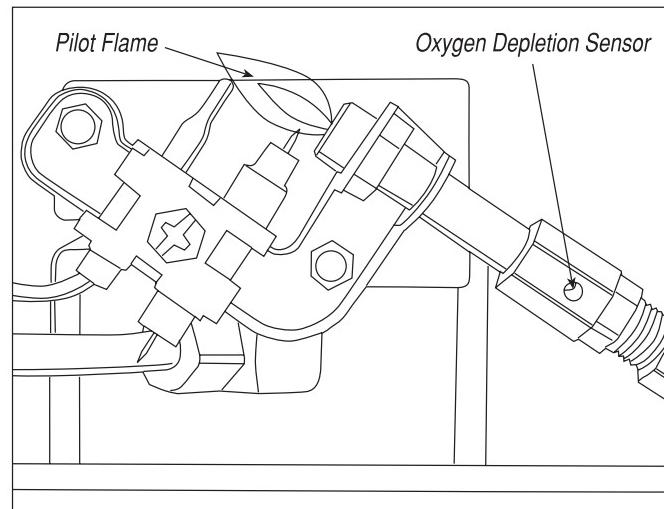

Figure 3
Visually inspect the pilot flame and burner periodically during use. The pilot flame should be blue in color (not yellow) and will extend beyond the thermocouple. The flame will surround the thermocouple just below the tip, see Figure 3. A slight yellow flame may occur where the pilot flame and main burner flame meet. The burner(s) should be bright orange (with a slight blue color around the border, a red-orange haze that is visible on the ceramic tile is acceptable) and without a noticeable flame.
- Remove (4) screws securing back cover to heater. Lift up slightly to release (2) plastic hooks on top of back cover.
- Remove (3) screws attaching lower baffle to expose burner air openings.
- 9 Inspect and clean pilot (mounted to bracket) by using a vacuum or apply air pressure through the holes in the pilot indicated by the arrows in Figure 3.
- 11 Reinstall lower baffle with (3) screws
- 12 Slide back cover over (2) plastic hooks on top of heater. Make sure rear cover aligns with plastic side covers. Install (4) screws to hold in place.